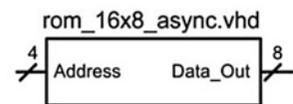

Fig. 11.2 16×8 asynchronous ROM block diagram
- 11.2.1 Design a VHDL model for the 16×8 , asynchronous, read-only memory system shown in Fig. 11.2. The system should contain the information provided in the memory map. Create a test bench to simulate your model by reading from each of the 16 unique addresses and observing Data_Out to verify it contains the information in the memory map.